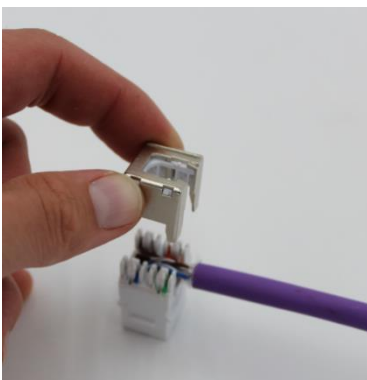

Fig.11
3.9 Place the rear cap over the IDC towers to ensure the wires are securely seated in the IDC. Fig. 11 & 12